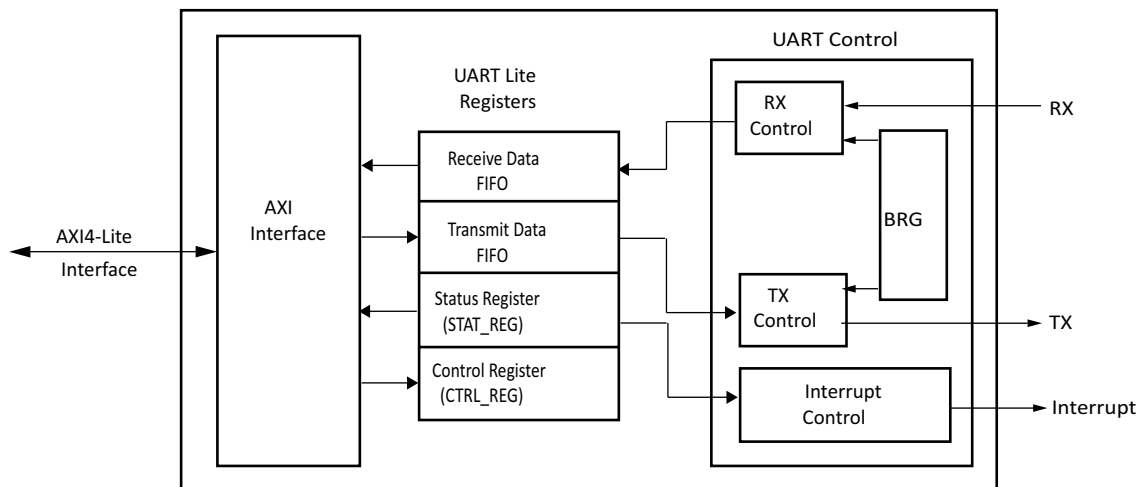

Figure 1-1: Block Diagram of AXI UART Lite
The AXI UART Lite modules are shown in Figure 1-1 and described in the sections that follow.
- **UART Lite Registers:** This block includes memory mapped registers (as shown in Figure 1-1). It consists of a control register, a status register, and a pair of transmit/receive FIFOs, both of 16-character depth.